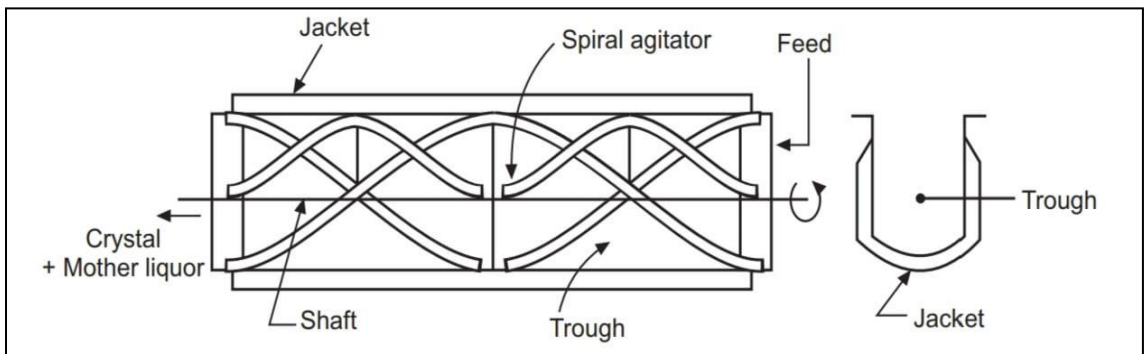

Figure 6. Construction of a Swenson Walker crystallizer
**Construction:** The construction of a Swenson Walker crystallizer is shown in figure 6. It is a linear type and consists of a long open trough about 0.6 metres wide and 3 metres long with a semi-cylindrical bottom. The trough is welded with water jacket externally. Long pitch spiral scrapper is fixed as close to the bottom of the trough as possible. Spiral scrapper rotates on its own-axis with the help of a motor. For higher capacity, maximum of four such units are joined together. For still higher capacities, several such sets are placed one above the other. In this arrangement the solution flows from one set to its below set.